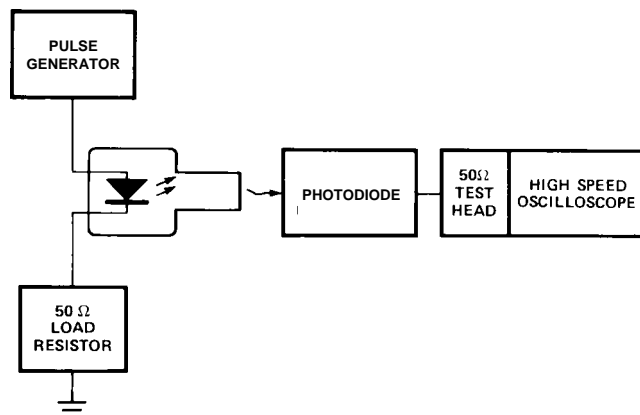

Figure 5. Test Circuit for Measuring t_r, t_f Without Pre-Bias.
4. Optical rise and fall times are measured from 10% to 90% with single-mode fiber. The “No Pre-bias” response time is measured in the recommended test circuit (50 ohm load, Figure 5) at 25 MHz, 50% duty cycle. The response time “With Pre-bias” is measured in the recommended application circuit (Figure 1).